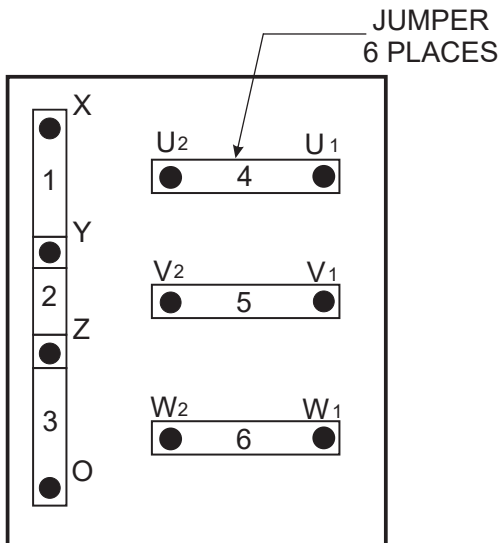

Figure 14. Voltage Change-Over Board (240-Volt Configuration)
Various output voltages can be obtained using the UVWO output terminal lugs. The voltages at the terminals are dependent on the placement of the jumper plates (6) on the **voltage change-over board** (Figure 14) and the adjustment of the **voltage regulator**.
1. Jumper the voltage change-over board for 240-volt operation as shown in Figure 14.
1. Make sure the voltage change-over board is jumpered for 240-volt operation as shown in Figure 14.